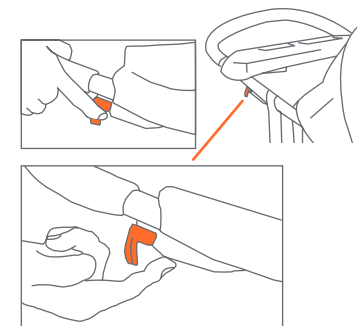
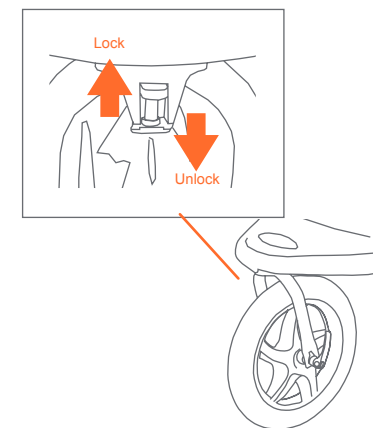

Fig. 16a
Fig. 16b
16) • The swivel jogger is equipped with a front wheel locking device. Fig. 16a is a remote release lever located under the right side handle. Pull to disengage the wheel and push to engage the locking device located under the footrest. Fig. 16b front wheel lock works in a vertical motion from top to bottom, locking and unlocking the wheel.